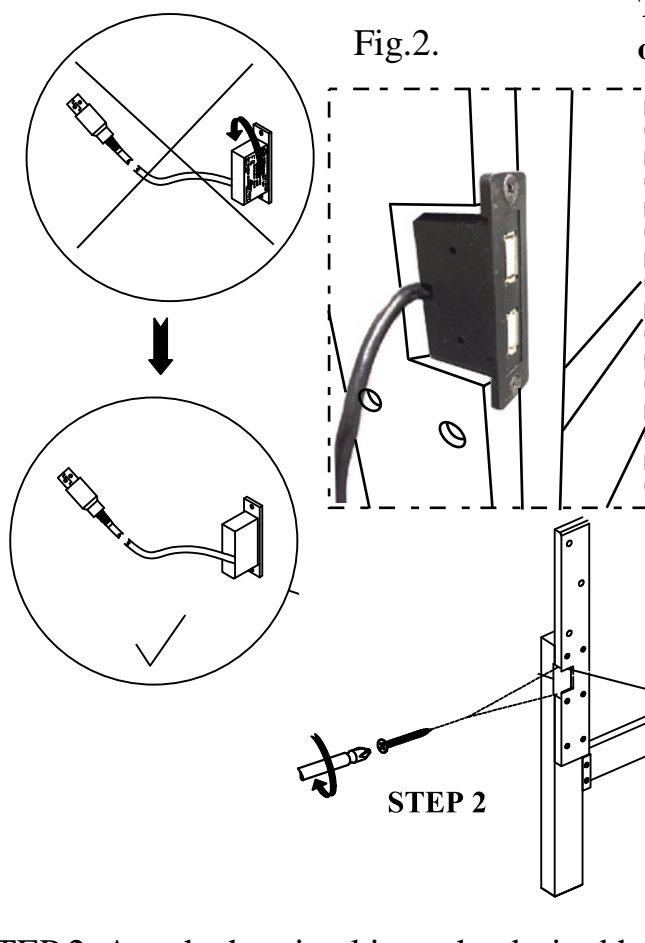

Fig. 3
STEP 2: Attach charging kit on the desired headboard leg using 2 screws and phillips screwdriver as shown in Fig. 3.